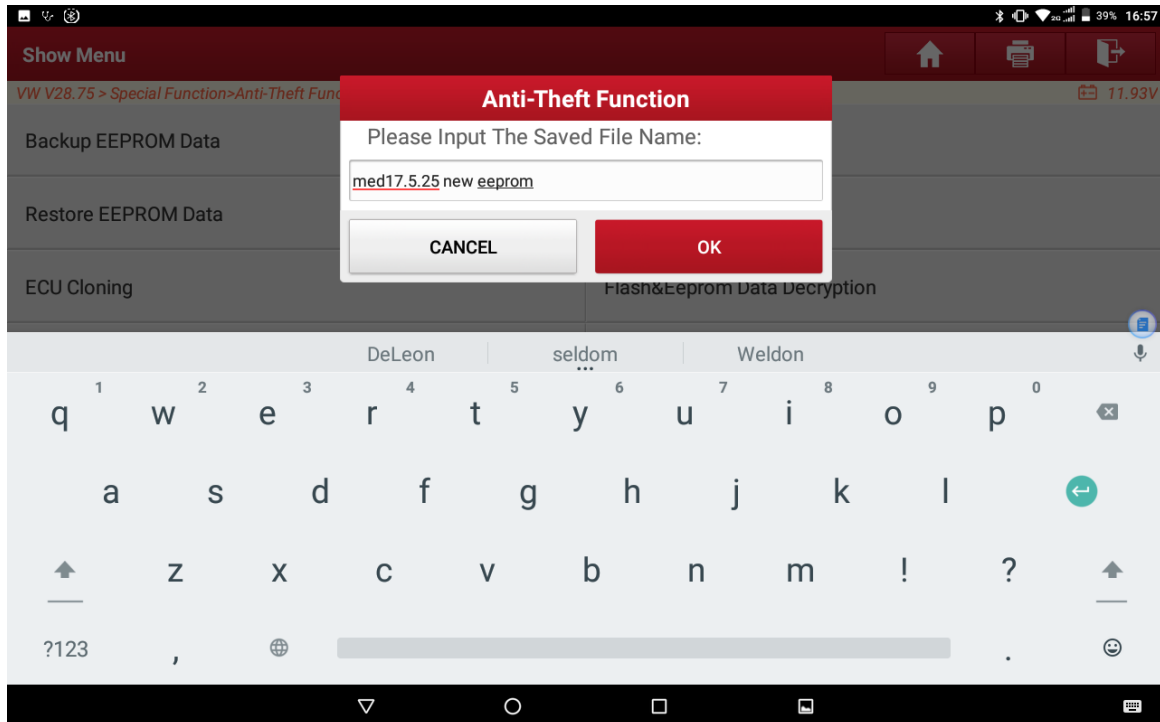

Figure 8
6. Disconnect the original engine and the programmer, connect the external engine and the Immobilizer programmer as per step 3 and read chip ID, and then perform the functions of 【Backup EEPROM Data】 and 【Backup FLASH Data】 for the external engine, save the two pieces of data separately (**Note:** The FLASH data of engine is large, and it takes 3-4 minutes to read, it is recommended to use USB for connection), as shown in Figure 8 and 9;